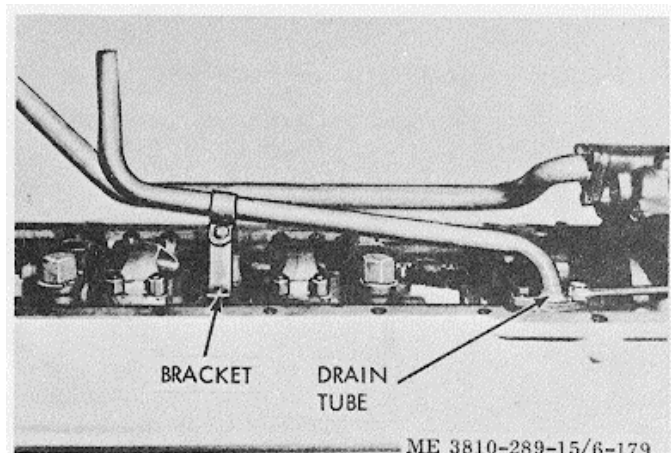

Figure 3-173. Drain tube capscrews removal.
a. Removal Remove capscrews, lockplates and lockwashers securing tube (fig. 3-173) and bracket to block; lift tube and bracket from engine.
(1) Install oil drain tube and bracket on bottom of cylinder block on camshaft side of engine; secure tube and bracket with lockplates and capscrews.
(2) Tighten drain tube flange to cylinder block first; then tighten bracket capscrew to block. This eliminates the possibility of the drain tube binding between bracket and tube flange.